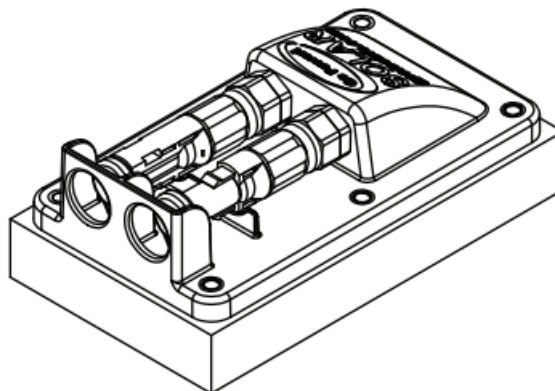

FIGURE 4-D
4. Assemble 4 mounting feet onto each of the solar panels frame using the 1/4" bolts and nuts. This assembly is easily completed on the ground before the panels are brought up to the RV roof. (See Figure 4-A)